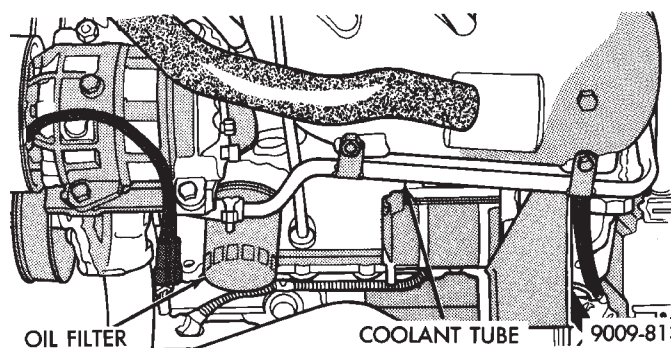

Fig. 14 Oil Filter
- (1) Using Tool C-4065, unscrew filter from base and discard (Fig. 14).
- (2) Wipe base clean, then inspect gasket contact surface.
- (3) Lubricate gasket of new filter with clean engine oil.
- (4) Install and tighten filter to 20 N•m (15 ft. lbs.) torque after gasket contacts base. Use filter wrench if necessary.
- (5) Start engine and check for leaks.